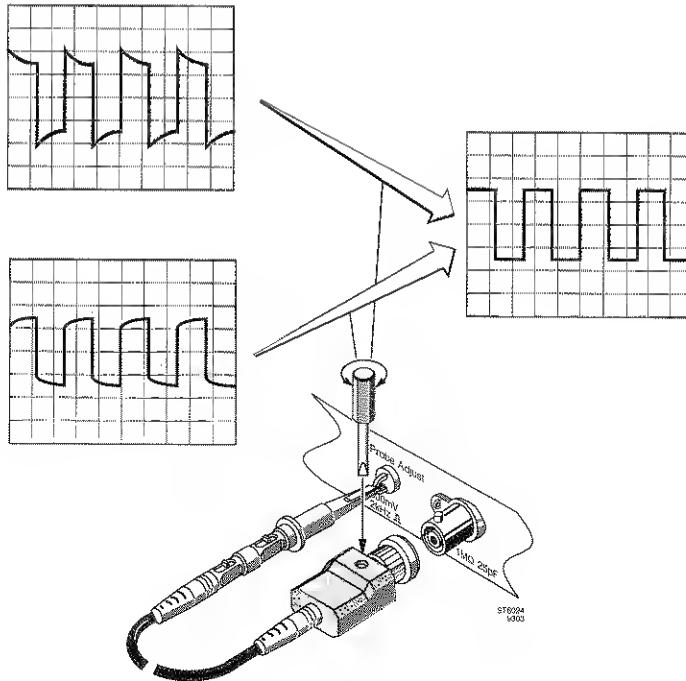

Figure 3.1 Probe adjustment
- Verify that top and bottom of the square wave are straight: if not, this must be corrected by adjusting the probe. The correction is done with a small screwdriver. This adjustment is made in the box at the oscilloscope input side of the probe: refer to figure 3.1 for this.